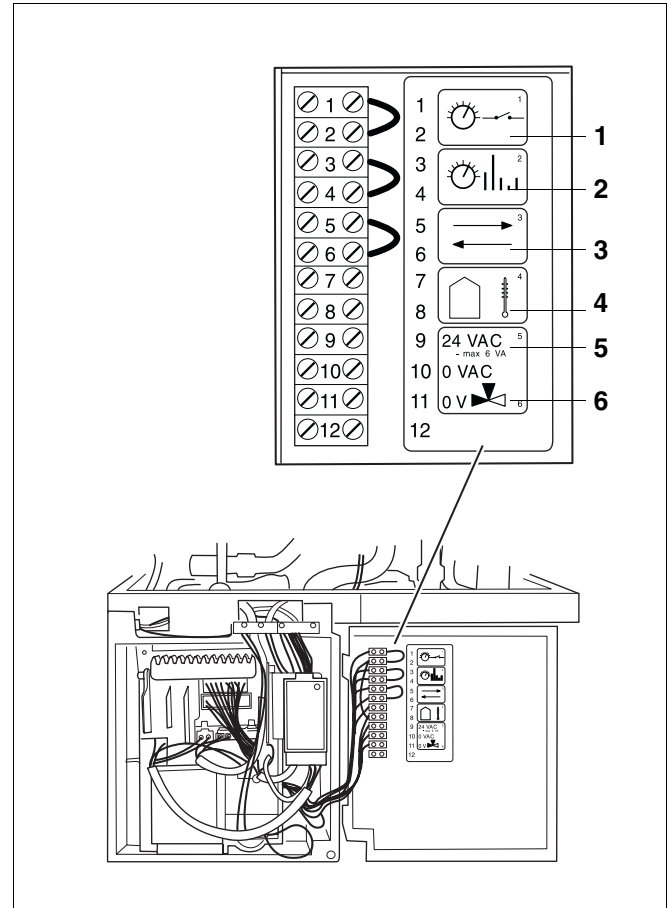

Fig. 90 Checking the controller-device connections at the boiler
- Terminals 1 and 2 should not be wired in any way. The unit is supplied with a dummy connector between terminals 1 and 2 (fig. 90). The DC voltage at terminals 3 and 4 should be approx. 11.5 V. If this is not so, the UBA or the cable harness is defective.
It is possible, in order to limit the source of errors, to disconnect the ERC or RC from the boiler (bridge required at 3 and 4) and to install a conductor bridge at 1 and 2 (fig. 90). The heating and hot-water requirement is then passed via the potentiometer setting of the UBA.